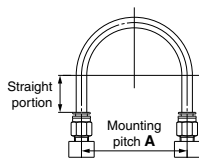

Fig. 1 Recommended piping configuration
- When connecting tubes using one-touch fittings, provide some spare tube length shown in Fig. 1, recommended piping configuration.